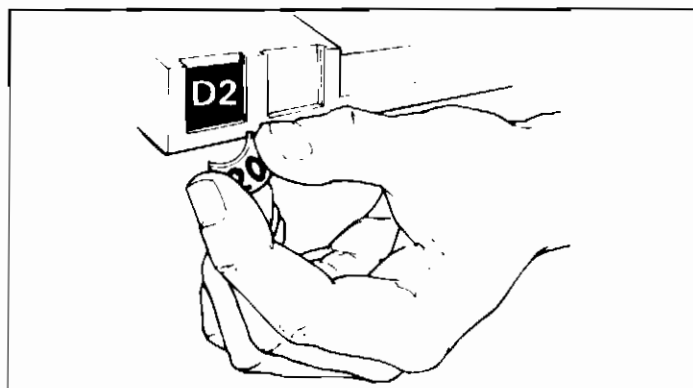

Figure 9. INSTALING PRICE TABS
12. INSTALL PROPER PRICE TABS into price tab holder for each selection in the main product area. (See Figure 9.)